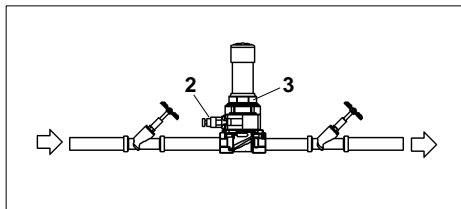

Fig. 6: Cartridge exchange II
2. Open the discharge valve (2) contraclockwise so that the pressure remaining in the device can escape (see Fig. 6).
3. Unscrew the union nut (3) at the phosphate cartridge contraclockwise.